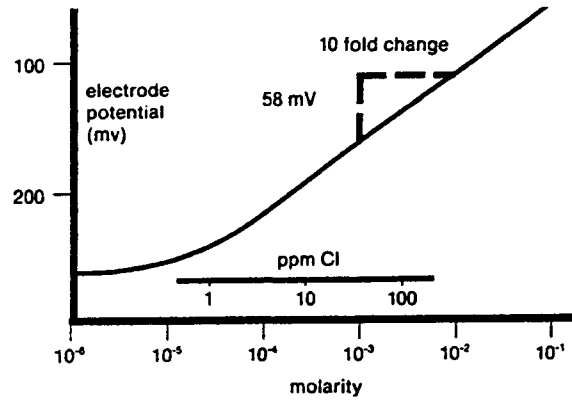

Figure 3-1 Typical Chloride Electrode Calibration Curve
5. Using the semi-logarithmic graph paper, plot the mV reading (linear axis) against the concentration (log axis). A typical calibration curve can be found in Figure 3-1. Extrapolate the curve down to about 2.0 x 10⁻⁴ M or 7 ppm.
7. On semi-logarithmic graph paper, plot the millivolt reading (linear axis) against the concentration (log axis) as in Figure 3-1.